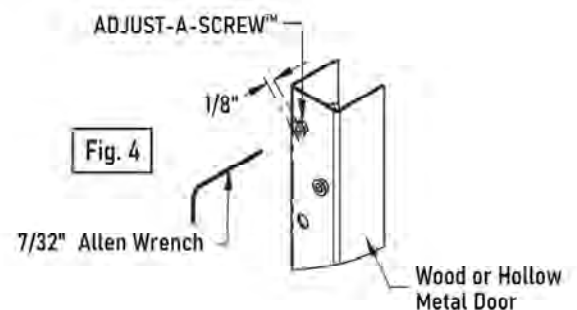

Fig. 4
3. Place a 7/32" Allen wrench in opening of Adjust-A-Screw and turn Adjust-A-Screw into hole while keeping screw properly aligned (Fig 4).
4. Place a 7/32" Allen wrench in opening of Adjust-A-Screw and turn Adjust-A-Screw into hole while keeping screw properly aligned (Fig 4).
A. Attaching hinge to door (Fig 4).